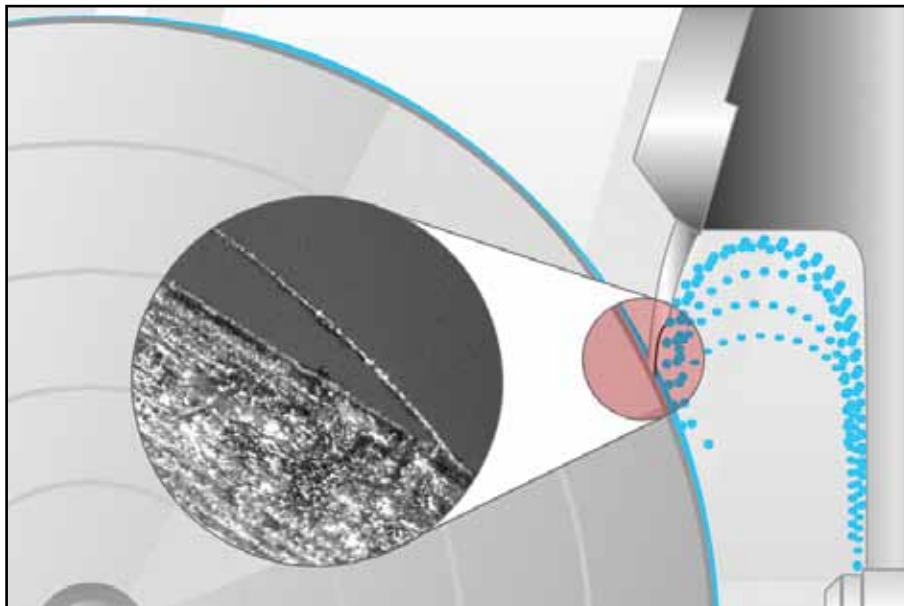

Figure 3: Excess chamber-to-anilox roll pressure increases contact area and ink film. It produces edge slivering.
- ◆ Under pressure, thinner blades flex, causing a wider contact area and edge slivering. See *Figure 2 and Figure 3*.